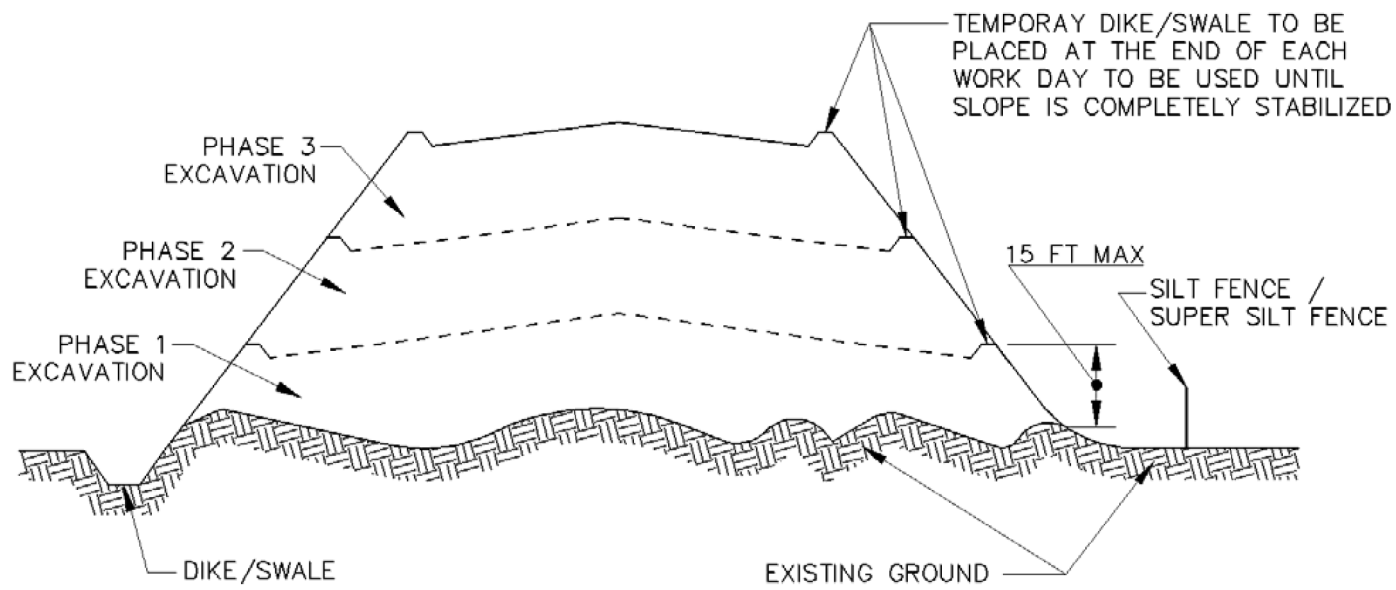

Figure B.2: Incremental Stabilization – Fill
- 4. Construction sequence example (Refer to Figure B.2):